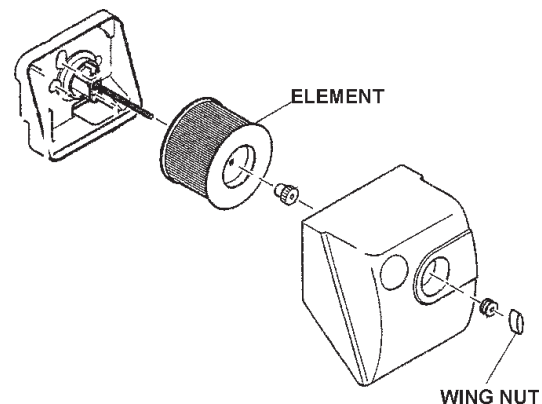

Figure 15. Engine Air Cleaner
1. Loosen the wing nut and detach the cover of the air cleaner shown in Figure 15.
2. Tap the element (Figure 15) several times on a hard surface to remove dirt, or blow compressed air [not exceeding 30 psi (207 kPa, 2.1 kgf/cm²)] through the element side. **NEVER** wash the element with detergent because the element is oil-soaked type. Replace the element when the output decreases or bad exhaust color is noticed.